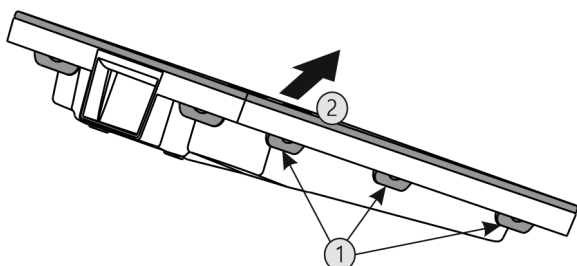

Fig. 39
- Press all lugs Fig. 39 (1) one after another and remove the cover Fig. 39 (2).